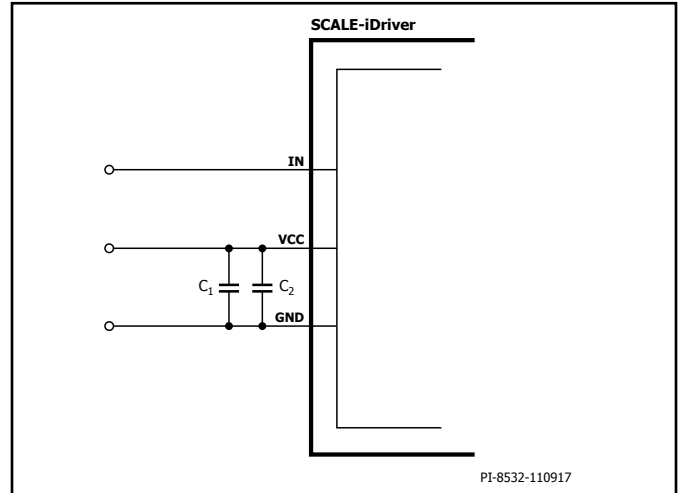
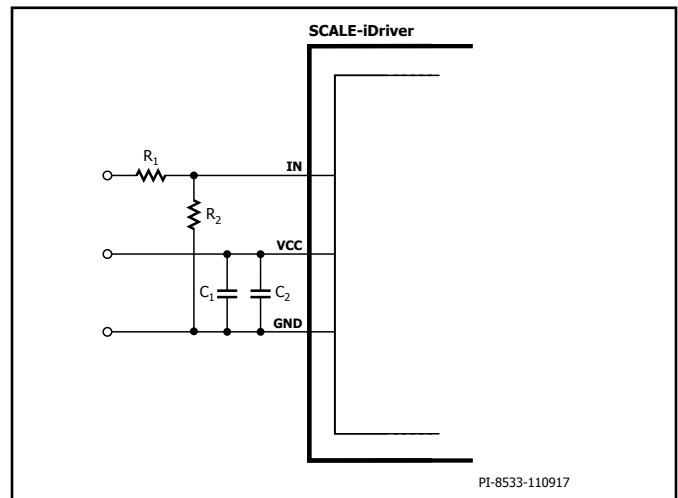
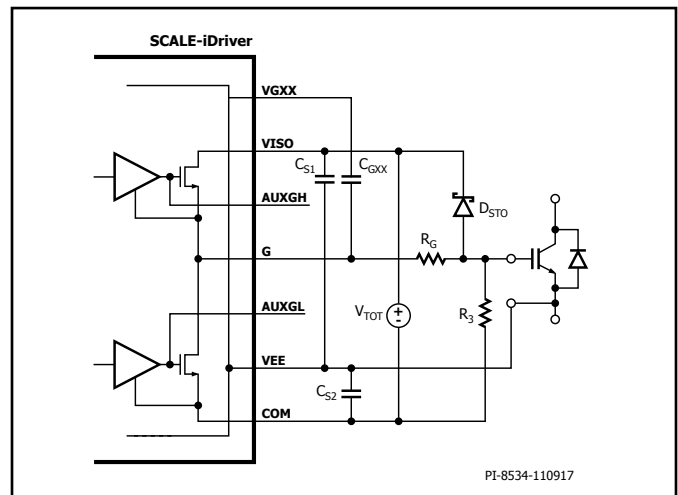
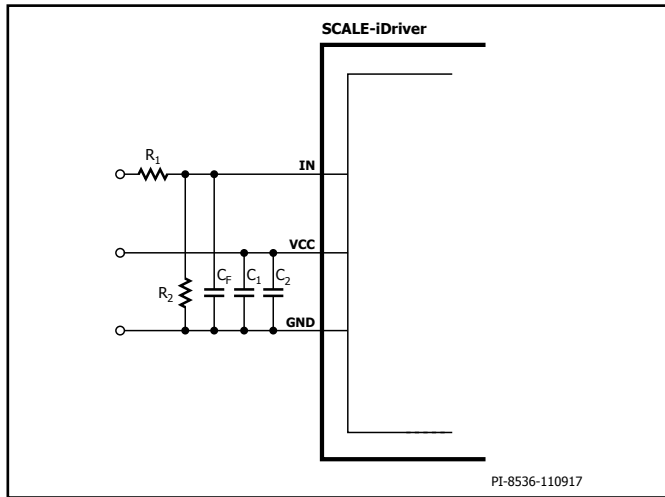

Figure 5. Recommended Circuitry for Standard 5 V IN Logic Level.
Figure 6. Recommended Circuitry for Increased IN Logic Levels. For $R_1 = 3.3 \text{ k}\Omega$ and $R_2 = 1 \text{ k}\Omega$ the IN Logic Level is 15 V.
Figure 7. SID1102K without External Booster Stage.
Figure 8. Optional Input Signal Filtering.
The input (IN) logic is designed to work directly with micro-controllers using 5 V CMOS logic. If the physical distance between the controller and the SCALE-iDriver is large or if a different logic level is required, the resistive divider in Figure 6 is recommended. This solution adjusts the logic level as necessary and will also improve the driver's noise immunity.
The gate of the power semiconductor switch should be connected to the SCALE-iDriver output via pin G, using suitable gate resistor R_G as shown in Figure 7.
It is recommended during power-up and power-down that the IN pin stays at logic low. Any supply voltage related to VCC, VISO, VEE and VGXX pins should be stabilized using ceramic capacitors C_1 , C_2 , C_{S1} , C_{S2} , and C_{GXX} respectively as shown in Figure 5 and Figure 7. After supply voltages reach their nominal values, the driver will begin to function after a time delay t_{START} .
Figure 5 and Figure 7 show the primary-side and secondary-side schematic and typical components used for SID1102K design without a booster stage, in which the primary-side supply voltage (V_{VCC}) will be connected between VCC and GND pins and supported through supply bypass ceramic capacitors C_1 (4.7 μ F typically) and C_2 (470 nF typically). If the command signal voltage level is higher than the rated IN pin voltage, a resistive voltage divider should be used (Figure 6). Additional capacitor C_F can be used to provide input signal filtering as shown in Figure 8. The filter time τ can be calculated according to equation (1):
To avoid parasitic power-switch-conduction during system power-on the gate is connected to COM through 22 k Ω resistor R_3 as shown in Figure 7.
The primary-side can be setup identical as described in the previous section referring to Figure 5 or Figure 6 or Figure 8.